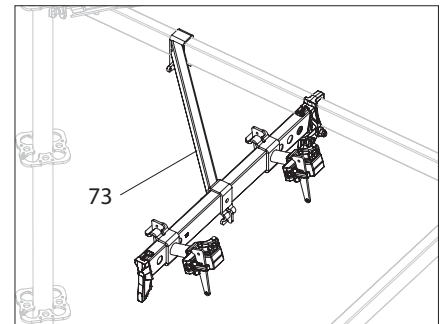

Fig. A9.05a
When attaching a ladder to the side of the base scaffold, the Ladder Connector UAC-2 must be braced with the Ladder Connector Diagonal UAD (73). (Fig. A9.05a)